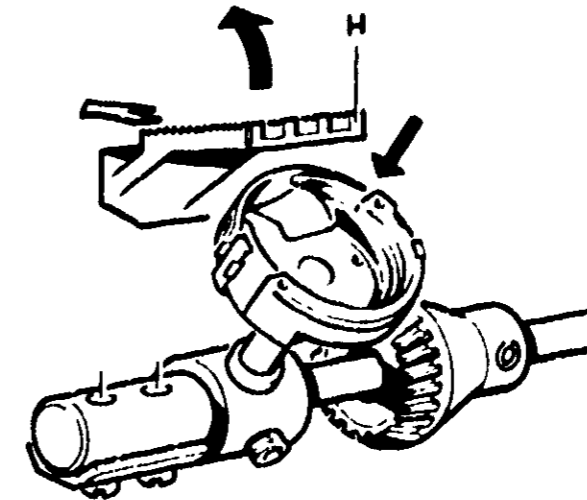

**FIGURE 41**
- Holding lower shaft (O) slide on the crown gear (D) then bushing holder (N) (Figure 41).
Install shuttle hook bushing (L) (Figure 41) into bushing holder (N). Bushing should be positioned so that its beveled end (S) enters the top of the bushing holder and protrudes from the bottom of the holder, and its flat side (T) is facing crown gear (D) (Figure 41). Only the beveled end (S) of the bushing should protrude below the holder. Tighten screw (I).